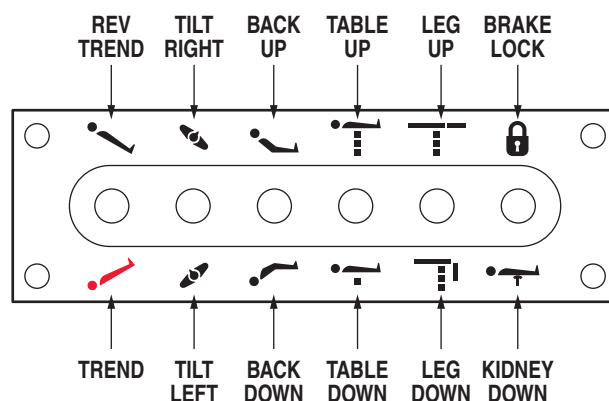

Figure 2-19. Emergency Back-Up Controls
b. In the event of either a power failure or a problem with the hand-held pendant control, the table can be operated using the emergency back-up switches. Simply push the desired emergency switch in the appropriate direction to operate the table functions. See figure 2-19.